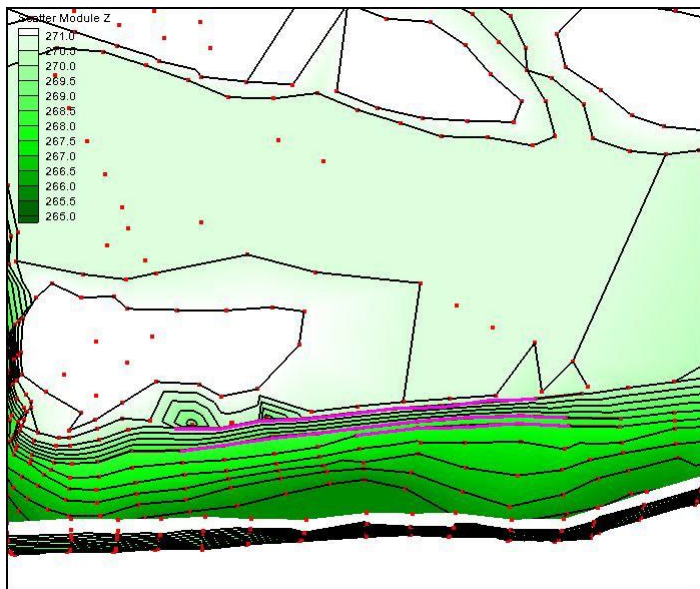

Figure 10 TIN with breaklines forced
- Right-click and select **Force Breakline**. The screen should now look similar to Figure 10.